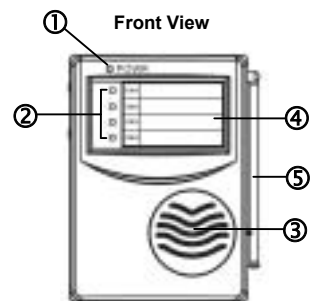

Figure 7. Front View of Alarm Receiver
The function allows the user to install four (4) tramistters in four (4) different locations (channels) at the same time, and the receiver will indicate which transmitter senses the motion by lightened LED (see ② in Figure 7).